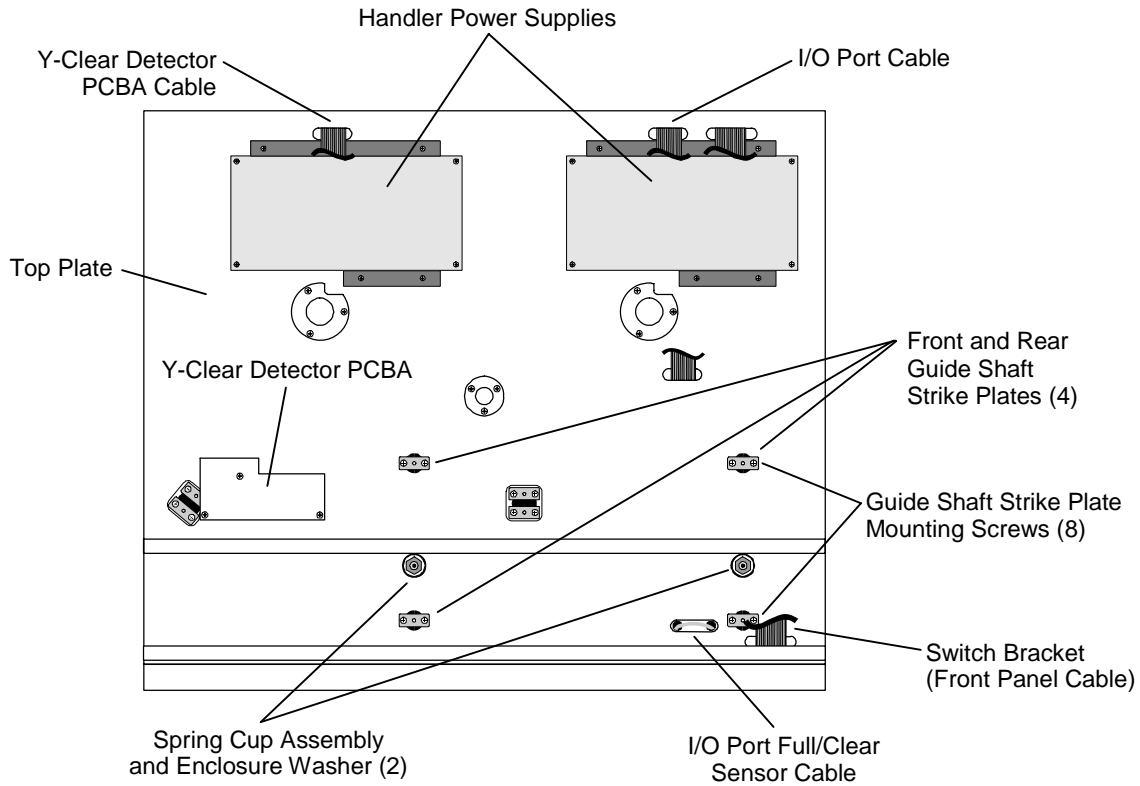

Figure 7-13 The TLS Cabinet – Top View of a TLS-412300/600 (Top Panel Removed)
11. There are two Guide Shaft Strike Plates mounted on the top plate for each of the front and rear Guide Shafts of each Carriage Assembly. Note that on TLS-412300/600 models the supporting Guide Shaft does not have to be removed when removing a Carriage Assembly. When removing the two for the right side Carriage Assembly gently move the Switch Bracket ribbon cable out of the way. For either the right or left side Carriage Assembly, remove all four Guide Shaft Strike Plate mounting screws, then remove both Guide Shaft Strike Plates (Figure 7-13).
15. Place a Guide Shaft strike plate over each of the two Guide Shaft holes on the top plate (Figure 7-13).
16. If replacing the right side Carriage Assembly gently move the Switch Bracket ribbon cable out of the way. For either the right or left side Carriage Assembly insert all four Guide Shaft Strike Plate mounting screws (6-32 x 3/8 pan head screws with integral lockwashers) into the Guide Shaft Strike Plate mounting holes (Figure 7-13). Use a number 2 Phillips screwdriver to firmly tighten the screws.